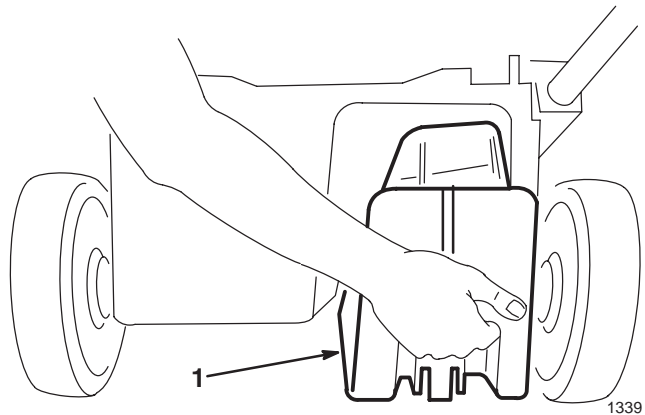

Figure 13
2. Open discharge door and insert plug into discharge tunnel opening (Fig. 13). Since the plug is slightly wider than the discharge tunnel opening, you must rotate the plug clockwise slightly while inserting it.